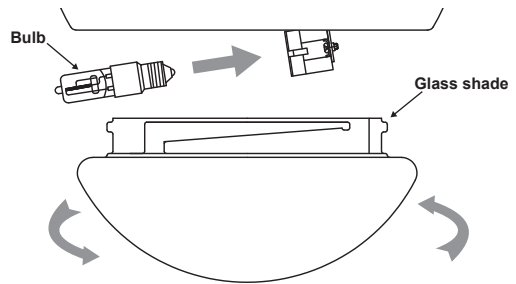

Figure 18
Step 1. Install 1 × 75W halogen bulb (included). (Fig. 18)
Step 2. Install the glass shade by carefully turning it clockwise until snug. **DO NOT OVERTIGHTEN.** (Fig. 18)